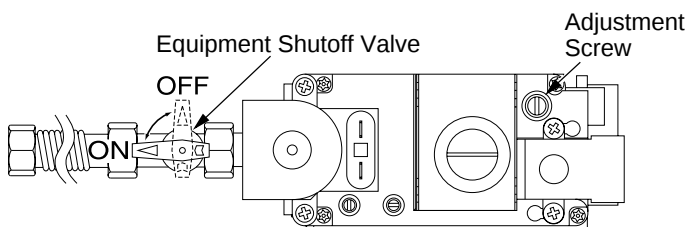

Figure 47 - Turning Equipment Shutoff Valve to the OFF Position
5. Turn equipment shut-off valve clockwise  to the OFF position (see Figure 47). Do not force.
6. Wait five (5) minutes to clear out any gas. Then smell for gas, including near the floor. If you smell gas, **STOP!** Follow "B" in the safety information above. If you don't smell gas, go to the next step.
- Turn the adjustment screw marked PILOT clockwise to decrease or counterclockwise to increase the flame to proper size (see Figure 47, page 24). Do not remove the adjustment screw.